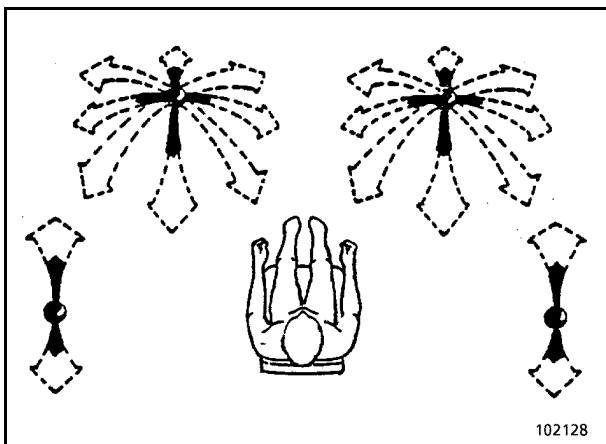

Fig. 3-69:
- Shift both control levers repeatedly into all directions (Fig. 3-69:).